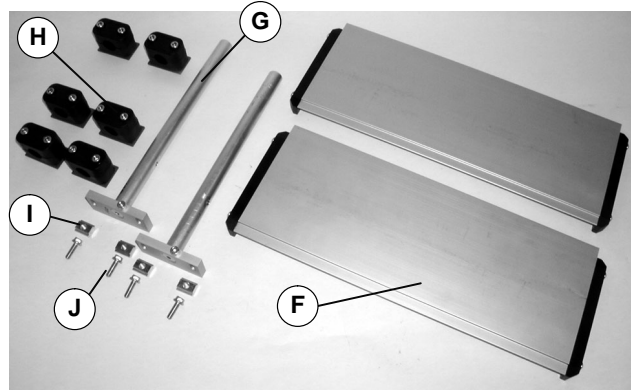

Figure 12
1. Typical components (Figure 12)